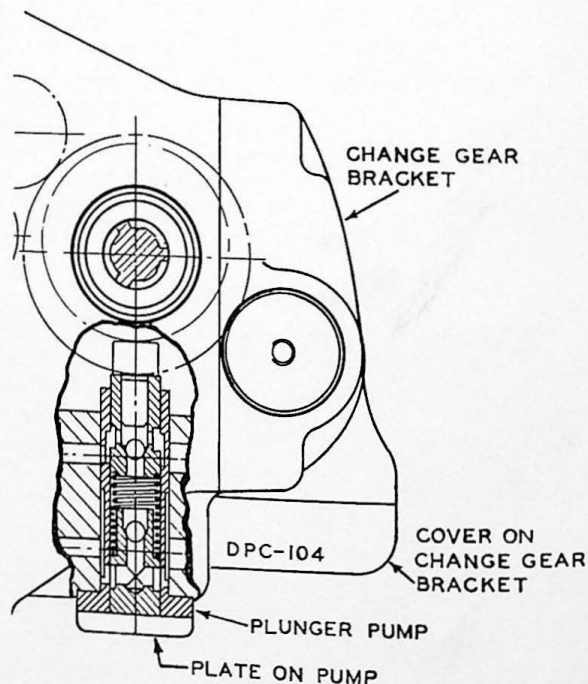

FIGURE 19
1. Remove three fillister head screws through plate and pump. See Figure 19.